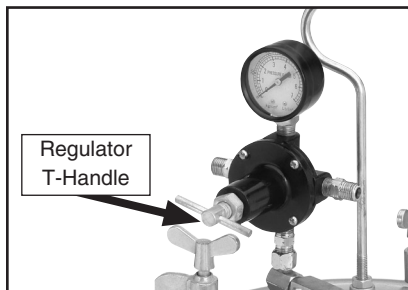

Figure 4. Regulator T-handle.
2. Bleed out all tank pressure by pulling the ring on the safety valve (**Figure 4**) until air stops hissing out.
4. Loosen the wing screws on the tank lid (**Figure 4**), tip the clamps back, and tip the tank lid to one side.